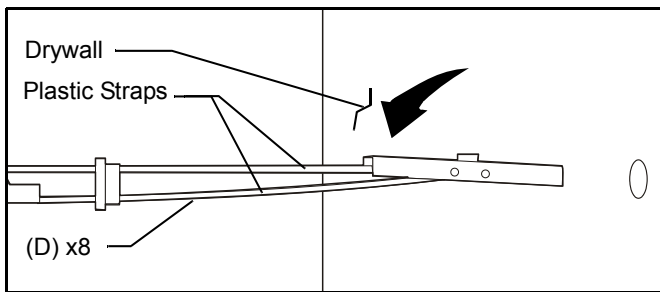

Figure 4
6. Hold metal channel on anchor (D) flat alongside plastic straps and slide channel through hole. (See Figure 4)